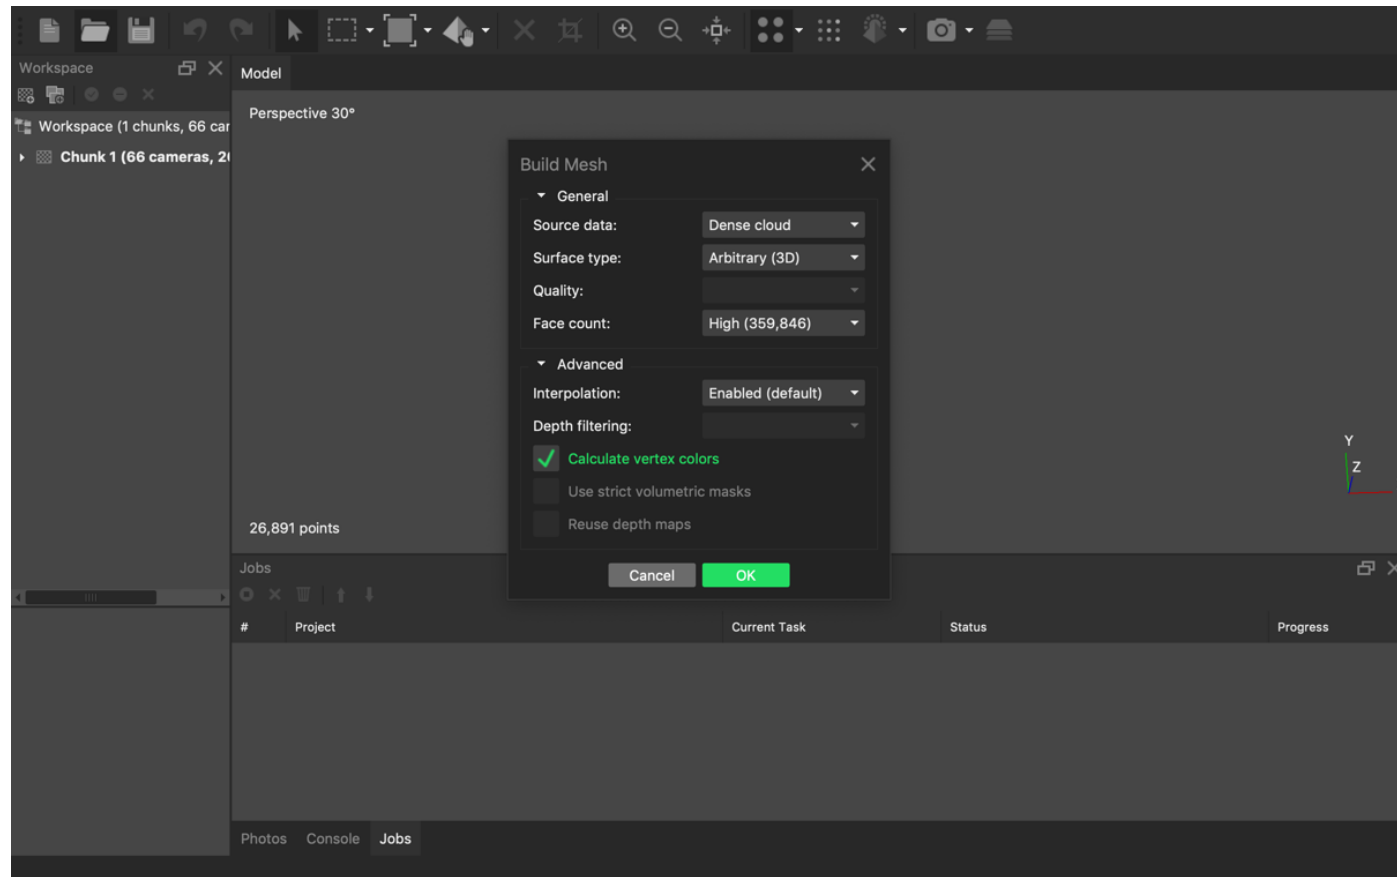

Figure 21. Building mesh in Metashape
9. Go to workflow, select “Build mesh” (Figure 21) (**settings**: source data = dense cloud, surface type = arbitrary, face count = high). The settings were selected by trial-and-error, so other settings may also work for you. We are open to suggestions.